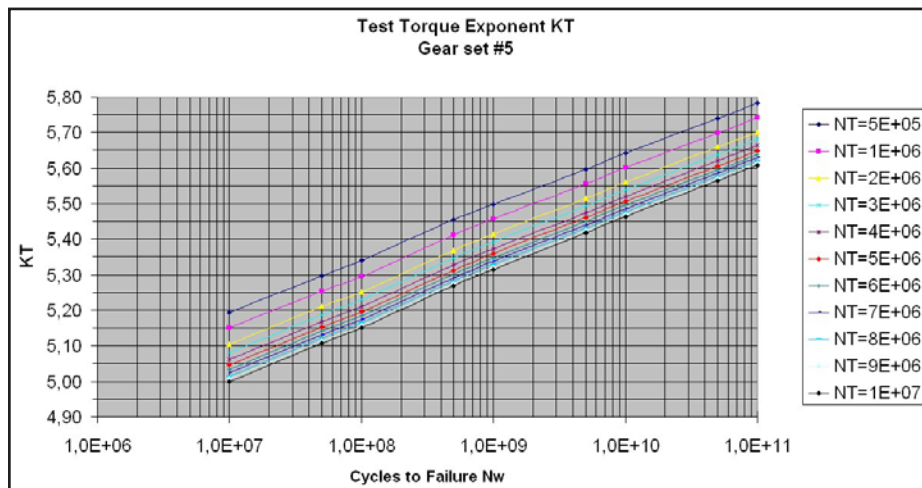

Figure 2 A working diagram for Gear set No. 5.
Step 4: Depending on the loading in service, a pinion and ring gear set with the same macro- and micro-geometry can have various lifetimes (N_w). Based on the above, a work diagram (N_w, k_T, N_T) can be determined for any gear set; e.g. — Figure 2, which was determined for gear set No. 5.
- In Figure 2, the value (k_T) is obtained from intersection point of (N_w) and (N_T)
In Figure 2 it can be observed that if the number of the test loads is equal to the number of the loads in service ($N_T = N_w = 1,0E + 07$), then ($k_T = k_w = 5$), this confirms that the work diagram is correct.
Note: Figure 2 was determined in case of $K_w = 5$. If the previous test results confirm that the material grade used and the production accuracy requires other value of (k_w) in the particular case, (e.g. — $k_w = 5.3$), then Figure 2 must be rebuilt.
But in this case, we start from the previously determined work diagram (Fig. 2) typical to the particular gear set as follows:
z . Using the work diagram in Figure 2 typical to the particular gearset, the above points (b , c , d , e) are separately carried out with the value pairs (D_{wi} , N_{wi}). As a result of the above, we get to the parameters (M_{Tu} , N_{Tu}), of the stepped test load process (u), namely: the equivalent (M_{Tu} , n_{Tu} , t_{Tu}).
c. Based on the diagram (Fig. 2) typical to the particular gear set, the value (k_T) was determined by means of the values (N_w) and (N_T).
The diagram in Figure 4 shows that macro- and microgeometry of the tothing has significant effect on the value of test torque exponent, (k_T), and hereby on determination of the test parameters. It means that the above process is gear-specific, namely the diagram as in Figure 2 shall separately be determined for each pinion and gear set. The results shown in Figure 4 reflect the cumulated effects of macro- and micro-geometry.
If the conjugate values (K_T, N_T, N_w) in diagram seen in Figure 2 are shown so that the relation (K_T, N_T) is shown at various constant value (N_w), we get to the following diagram:
The study represents that various torque exponents shall be used in sections *Limited Life* and *Long Life* of the Wöhler diagram, when accumulated damage number is calculated. By its structure, the work diagram (Fig.2) allows determination of the value (k_T).